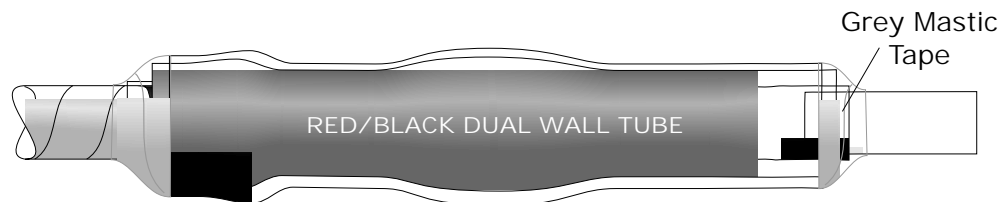
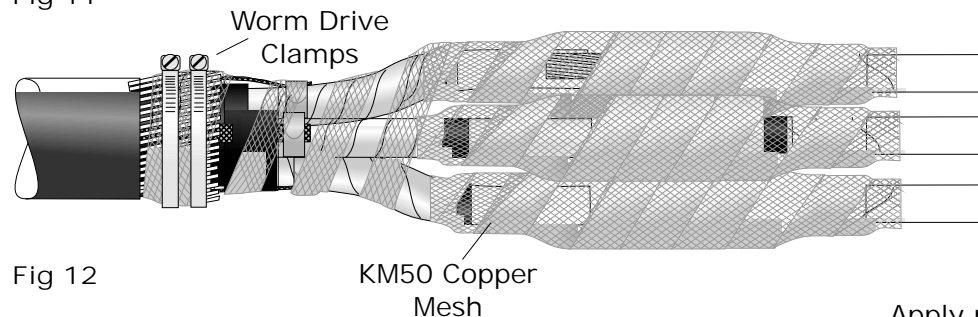

Fig 11
Fig 12
15. Allow the core insulation tubes to cool slightly, then apply a band of grey mastic to each end as shown in Fig 11.
16. Using the tinned copper mesh applied with a 50% overlap, apply around each core as shown in fig 11. Extend over the copper screens to the armours as shown in Fig 12.